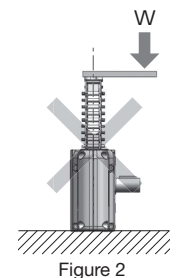

Figure 2
- Install the unit so that the load put on the main body will act on the shaft placed in the same travelling direction as that of the Zip Chain. If the direction of action or position is not correct, the Zip Chain may receive bending loads or lateral loads that can damage the unit. (Figure 2)